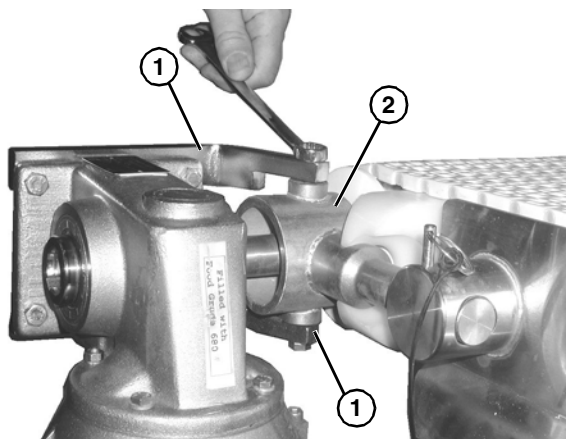

Figure 28
3. Attach the bent bars (**Figure 28, item 1**) to the motor mounting bracket (**Figure 28, item 2**).